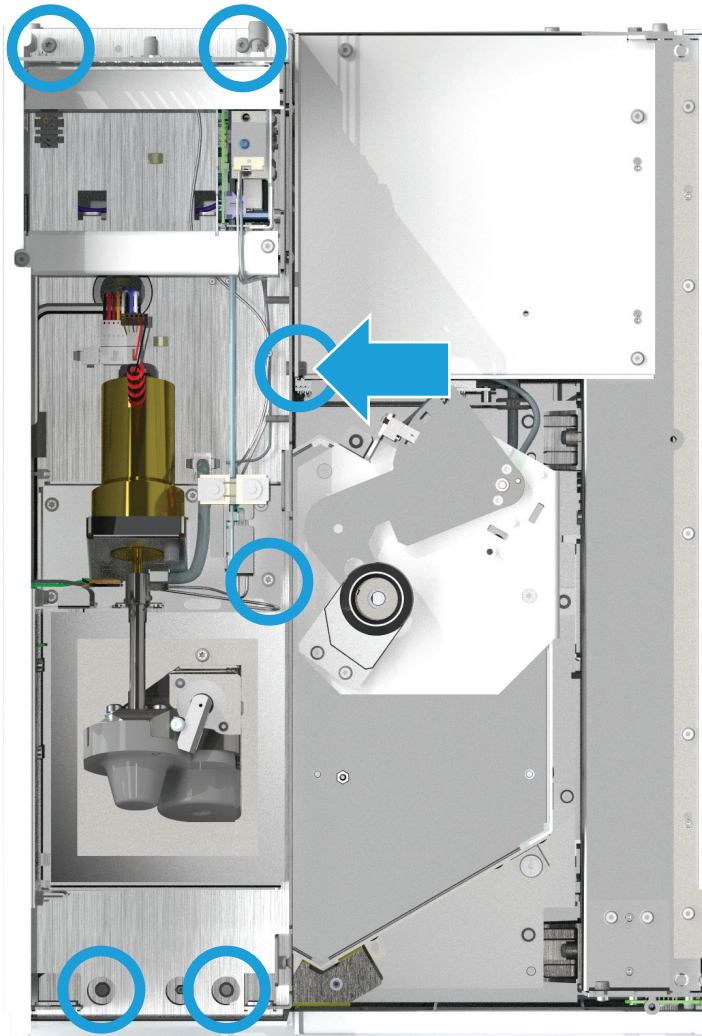

Figure 8. Loosen the screws that secure the pneumatics assembly
- 11 Loosen the 6 screws that secure the pneumatics assembly to the chassis. Note that one screw is on the side of the assembly. (Figure 8).